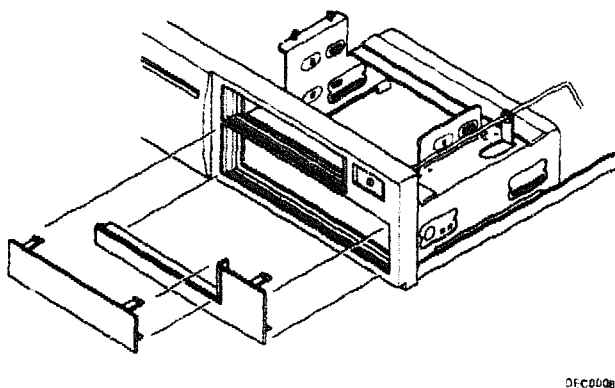

Figure 3-20 - Removing Filler Panels
8. Using a screwdriver, carefully release the plastic locking tabs securing the two filler panels to the chassis. Remove both filler panels (see Figure 3-20).
6. Using a screwdriver, carefully release the plastic locking tabs securing the two filler panels to the chassis. Remove both filler panels (see Figure 3-20).